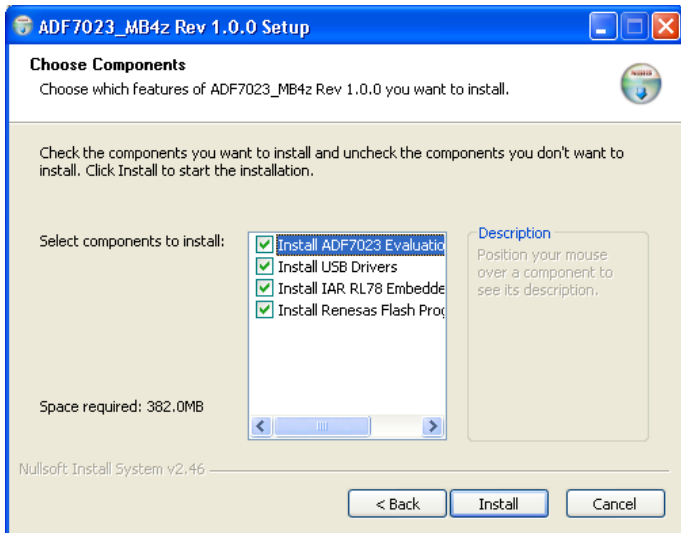

Figure 2
3. Once components to be installed are selected as in Figure 2 click “Install”.